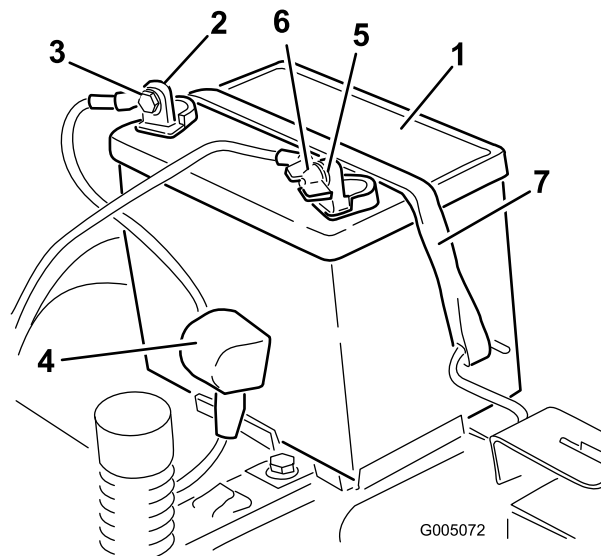

Figure 42
4. Disconnect the negative (black) ground cable from the battery post (Figure 42). Retain all fasteners.
5. Slide the rubber cover up the positive (red) cable. Disconnect the positive (red) cable from the battery post (Figure 42). Retain all fasteners.
6. Remove the battery hold-down (Figure 42) and lift the battery from the battery tray.
1. Position the battery in the tray (Figure 42).
5. Secure the battery with the hold-down (Figure 42).